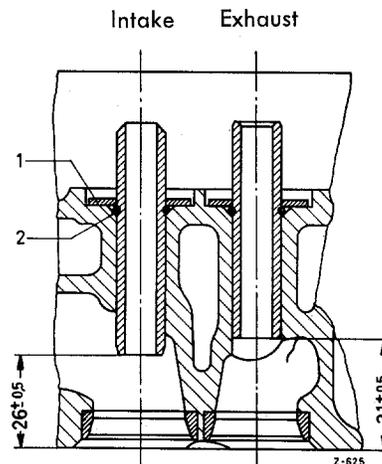

Figure 01-6/1
- Note:** If on OM 621, type 621.910 the valve guides are replaced, install the new Teflon seals and valve guides of type 621.912 (see Figure 01-6/6).